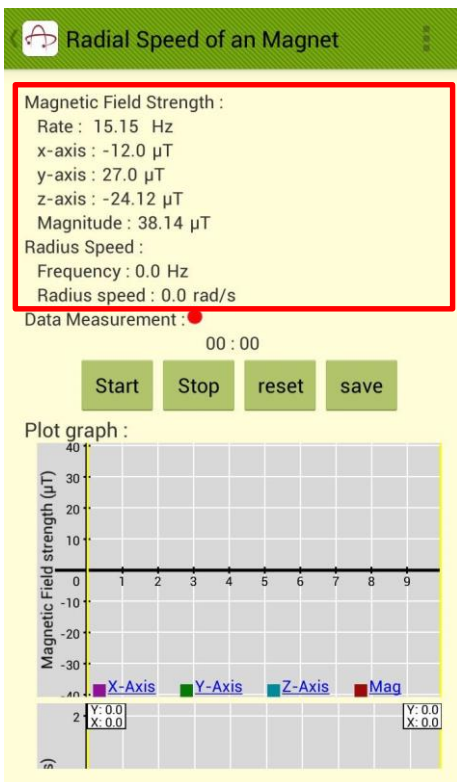

Fig 5.17
- The separate readings of magnetic field in x-, y-, z-axis and the magnitude are shown. The unit is in μT (10^{-6}T). The radial speed of rotation of the object is shown below (Fig 5.17). In this example, however, the radial speed is not recorded due to limitation of mobile device.